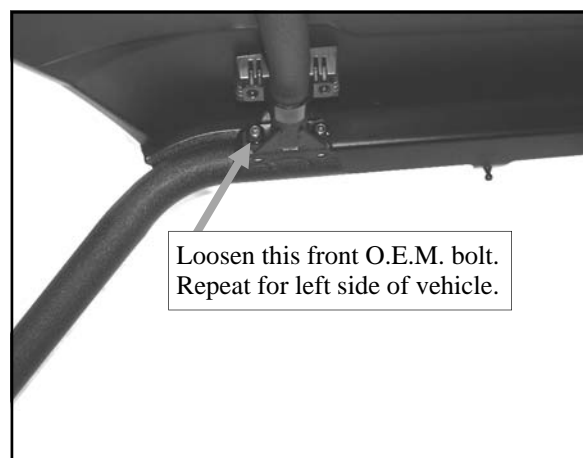

Fig. 8.2 (View of inner right side)
8.2 See fig. 8.2. Loosen the front-most O.E.M. bolt per side as shown (one per side). With assistance, place the windshield assembly on the vehicle and slide the open-ended slots on the windshield around the loosened R.O.P.S. bolts.